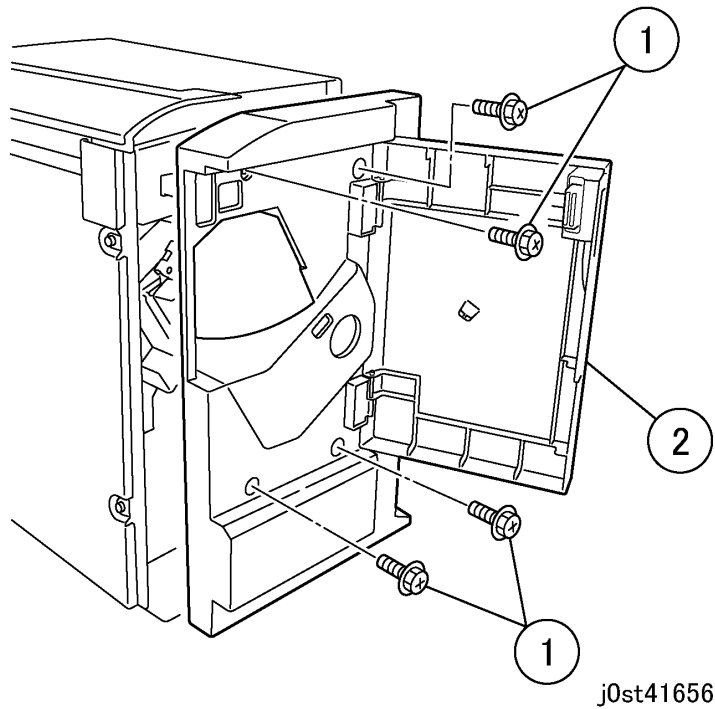

Figure 1 Removing the Front Cover Assembly (j0st41656)
1. Remove the Front Cover Assembly. (Figure 1)